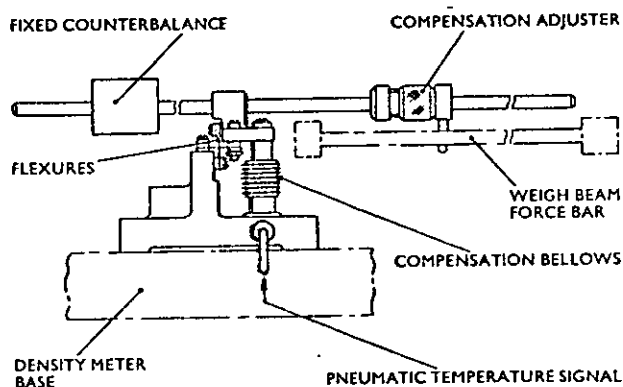

Fig. 6
6.2 The signal from a temperature transmitter is fed into the temperature compensation unit (connection marked 'TEMP'). The force applied to the weigh-beam force-bar is determined by the position of the compensation adjuster (fig. 6).